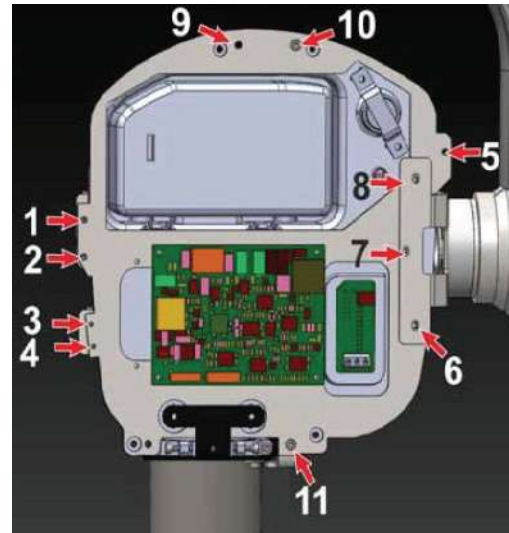

Figure 69
- Using 2.5mm allen key & 5.5mm nut driver fix 3 no's of Hex. Soc. head cap screws(M3X16) with M3 plain washers & M3 nuts (at the locations 9 to 11 as in Figure 69) such that the screw along with M3 plain washer should be inserted from bottom and nut along with M3 plain washer should be on the top of the H V Tank.
- Fix 5 no's of button head screws(M3X6) using 2mm allen key(at the locations 1 to 5 as in Figure 69).
- Fix 3 no's of Hex. Soc. Head cap screws(M3X6) on the top of the clamp near Tube Head arm at the locations (6 to 8 as in Figure 69) using 2.5 mm Allen key.